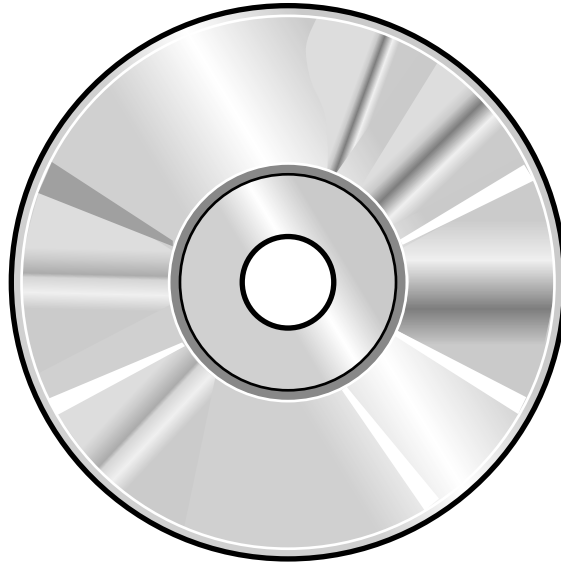

Fig. 5
- 4 Fig. 5 shows a DVD. The DVD is an educational film about outer space aimed at young children.**